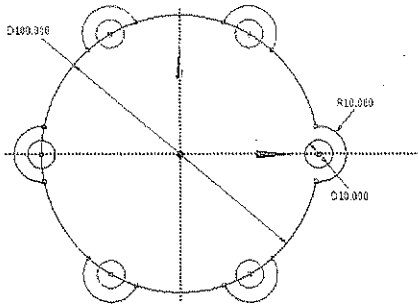

Figure 4-53 Sketch after replicating all instances of the selected entity
18. Similarly, create four more instances of the selected entities. Figure 4-53 shows the sketch after creating all the instances.